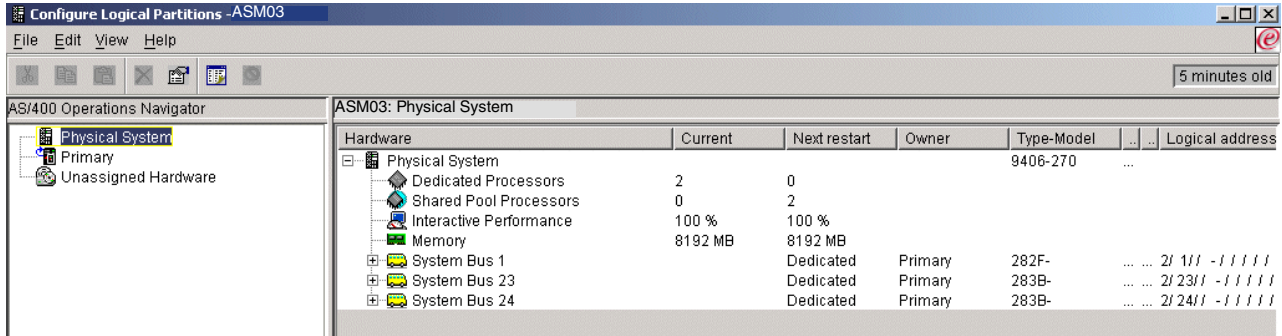

Figure 4-7 Configure Logical Partitions main window
5. Right-click **Systems with Partitions** and select **Configure Partitions**. This opens the Configure Logical Partitions window as shown in Figure 4-7.